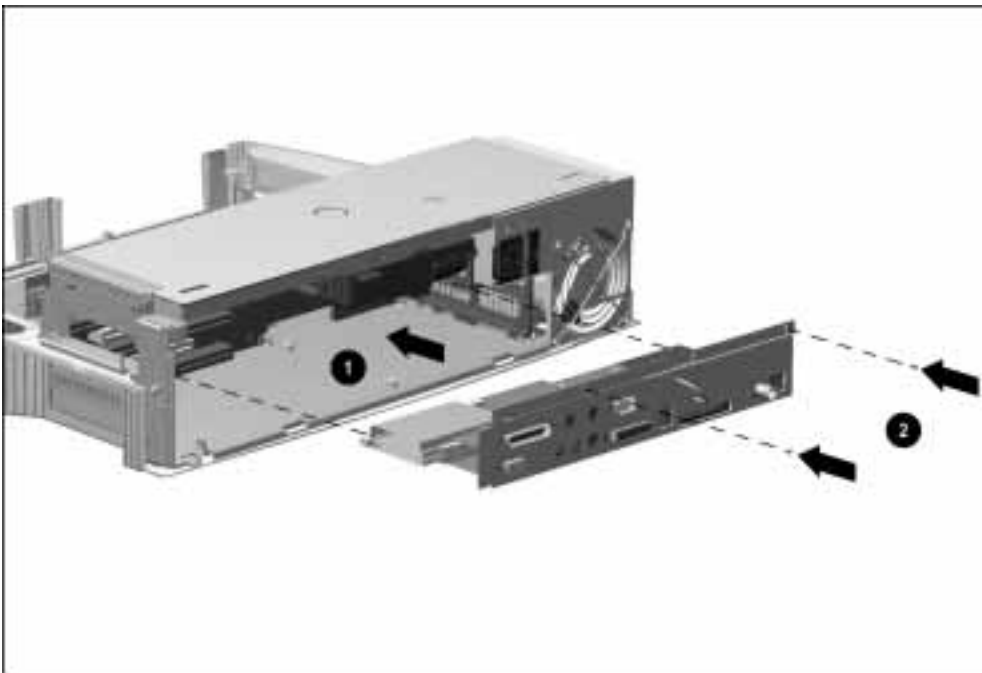

Figure 5-33. Installing the I/O Assembly
1. Align the right side of the I/O bracket with the groove in the expansion card cage (Figure 5-33).
2. Slide the I/O assembly into the ArmadaStation ① until the assembly connector seats itself on the backplane assembly.